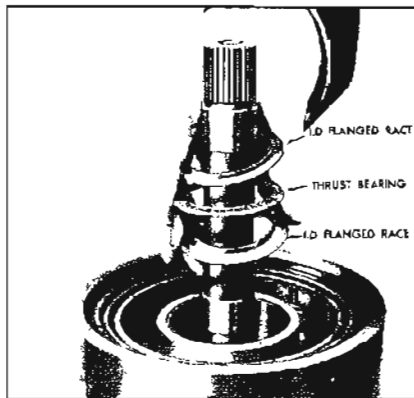

Figure 5-556
3. Remove the center support to sun gear races and thrust bearing. See Figure 5-556.